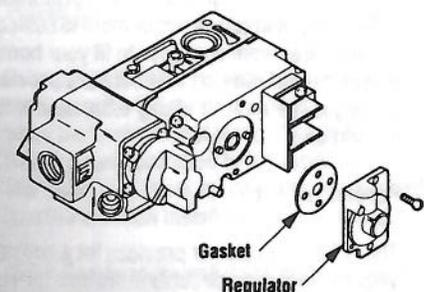

Figure 33
Step 2. Carefully remove the top twig. Then remove the two (2) main logs. Exercise care as not to break the logs.
Step 3. Remove the two (2) screws located at the base of the burner tray just behind the front burner. Remove the burner tray with the burner. Use care to prevent damage to the air shutter adjustment rod. Lift the rear of the burner tray up slightly and to the right to disengage the burner tube from the manifold and orifice.
Step 4. Millivolt Appliances — Remove and replace the regulator assembly located on the front of the gas valve (Figure 33). Ensure that the gasket is seated properly and is not kinked.